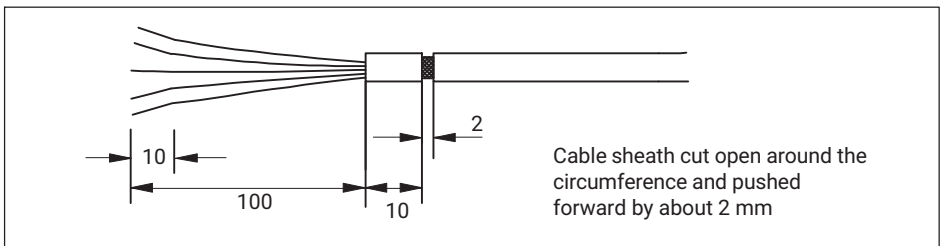

Fig. 7.2 Cable sheath with incision
1. Cut the cable sheath as shown in Fig. 7.2, to gain access to the shield.